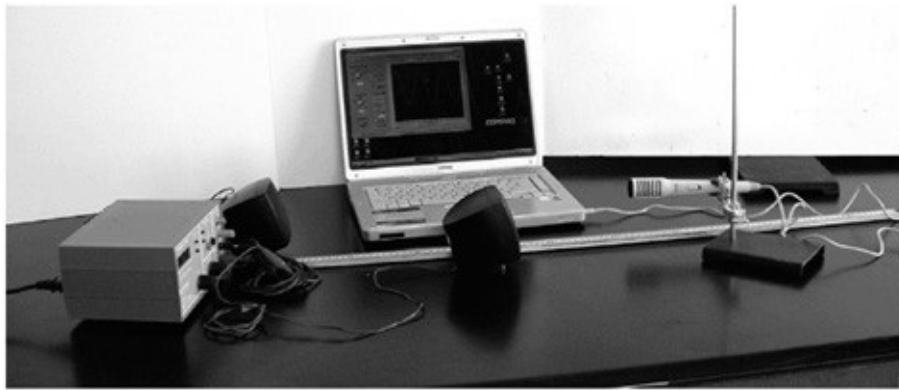

Figure 77-2 *Components to measure the speed of sound.*
10. The *distance between the speakers* when the sound is at a *maximum* is a *full wavelength*. This is the result of constructive reinforcement of the signals. The distance between the speakers when the sound is at a *minimum* is a half wavelength, resulting in destructive interference. (The components for this experiment are shown in Figure 77-2.)